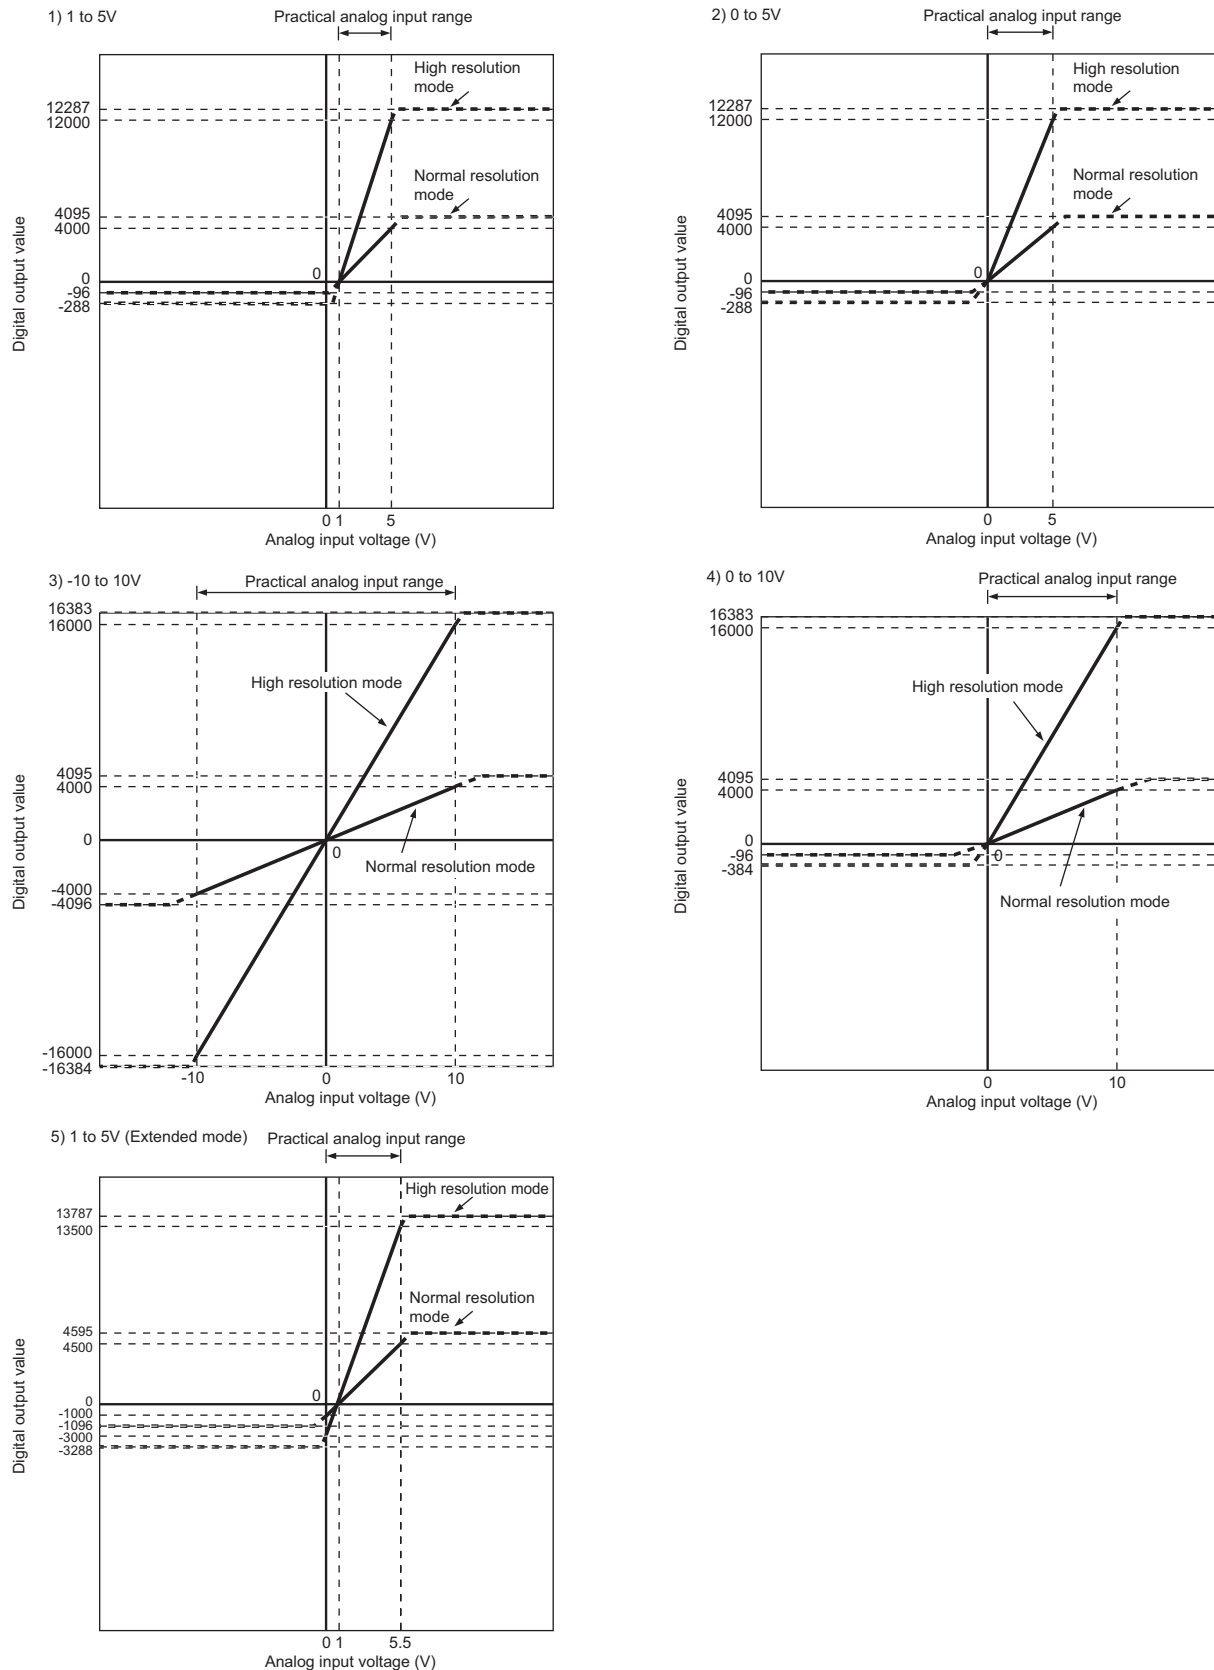

Figure 3.1 Voltage input characteristic
Figure 3.1 shows voltage input characteristics.
- (1) Set each input range within the practical analog input range and digital output range. If these ranges are exceeded, the maximum resolution and accuracy may not fall within the performance specifications. (Avoid using the dotted line area shown in Figure 3.1.)
- (2) Do not input an analog input voltage of ± 15 V or more. The input element may be damaged.
- (3) If an analog value that exceeds the range for the digital output value is entered, the digital output value will be fixed at the maximum or minimum value.